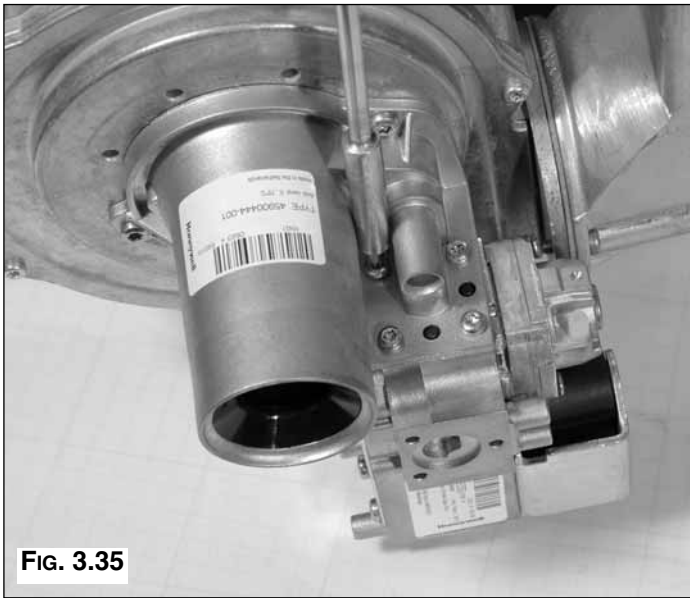

FIG. 3.35
6. Unscrew the four torx screws and disconnect the gas valve (see Fig. 3.35).